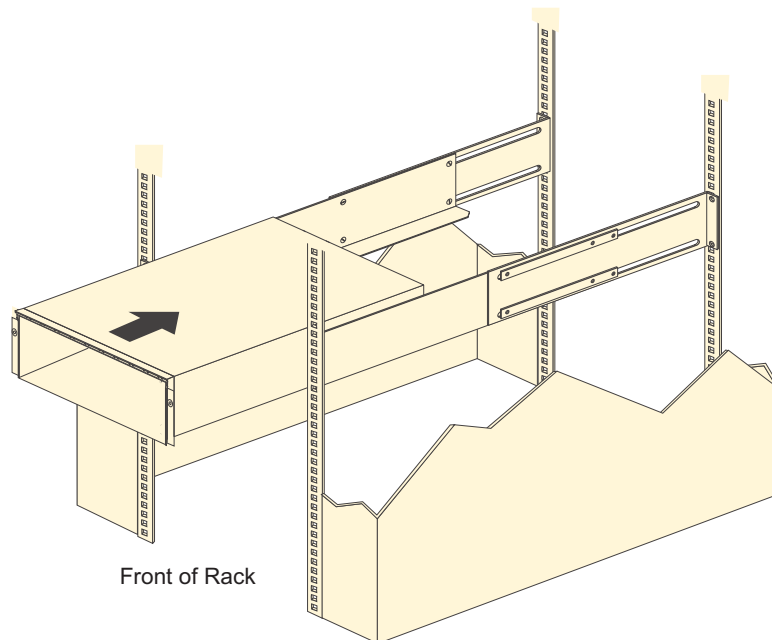

Figure 17. Installing the DS4200 Express
- b. With help from another person, place the back of the storage subsystem on the support rails, and then slide the unit into the rack as shown in Figure 17.